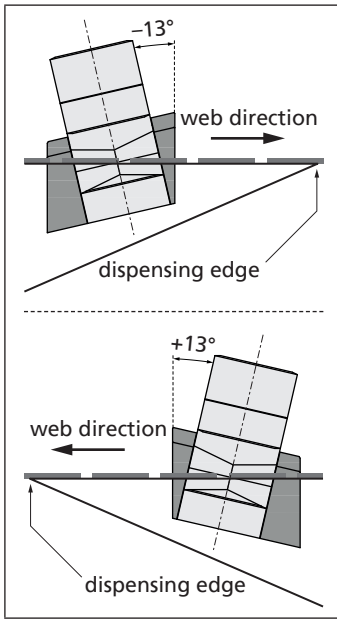

Fig. 4: Proper installation on the dispensing edge
- ➔ Attach the mounting adapter to the fork so that the fork is tilted 13° against the web direction (see Fig. 4).
- Always mount the sensor so that it is angled away from the dispensing edge (see Fig. 4).